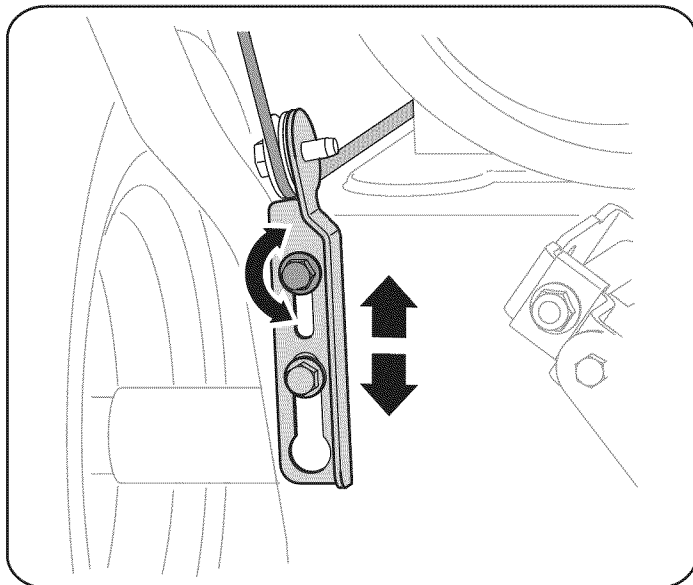

Figure 14
4. Allow the augers to remain engaged for approximately ten (10) seconds before releasing the auger control. Repeat this several times.
7. To readjust the control cable, loosen the upper hex bolt on the auger cable bracket. See Figure 14.